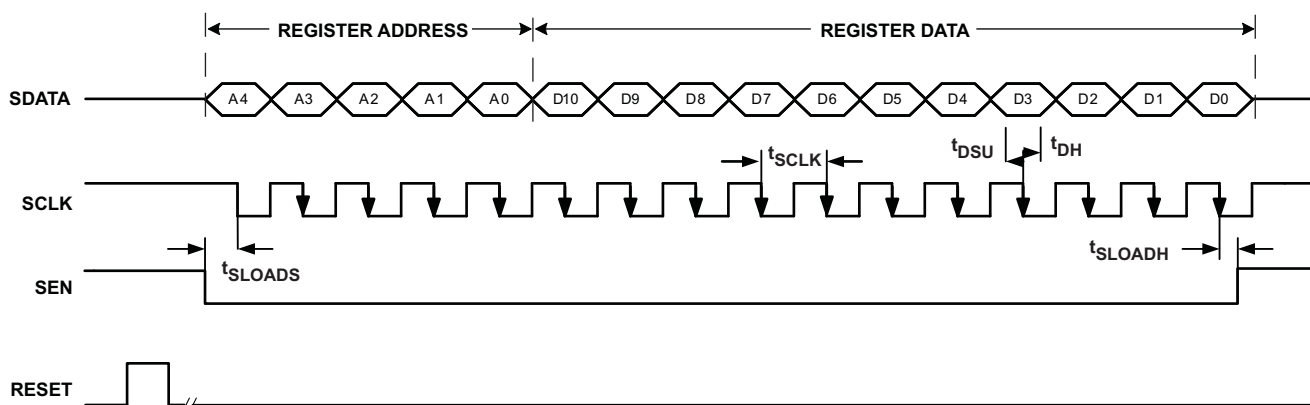

Figure 5. Serial Interface Timing Diagram
1. Either through a hardware reset by applying a high-going pulse on the RESET pin (width greater than 10 ns) as shown in Figure 5.